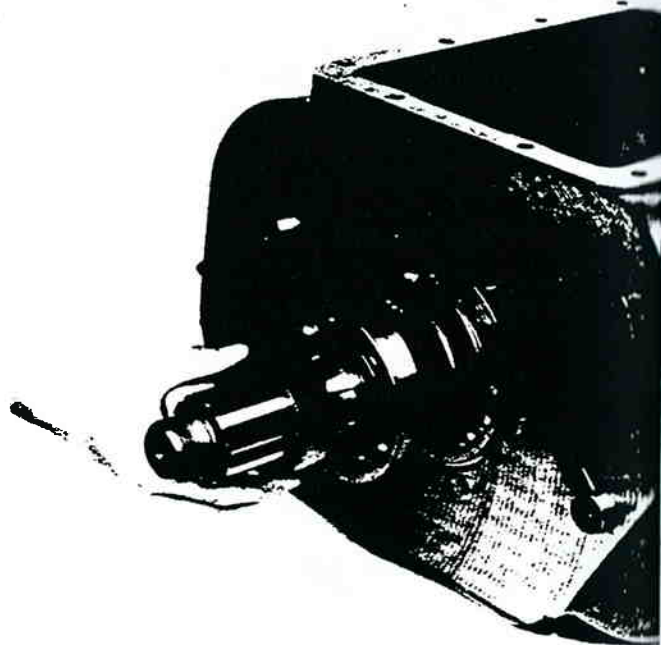

Figure 13-158. Spacer Installation.
7. Install the spacer on shaft and against washer (figure 13-158).